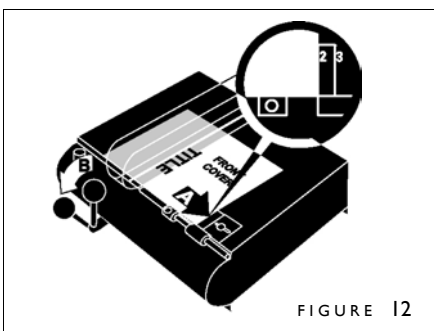

FIGURE 12
6. Slide your cover over again so its right edge (A) stops against step 2 (figure 12). Push the Lever to the left (B) to make a score.